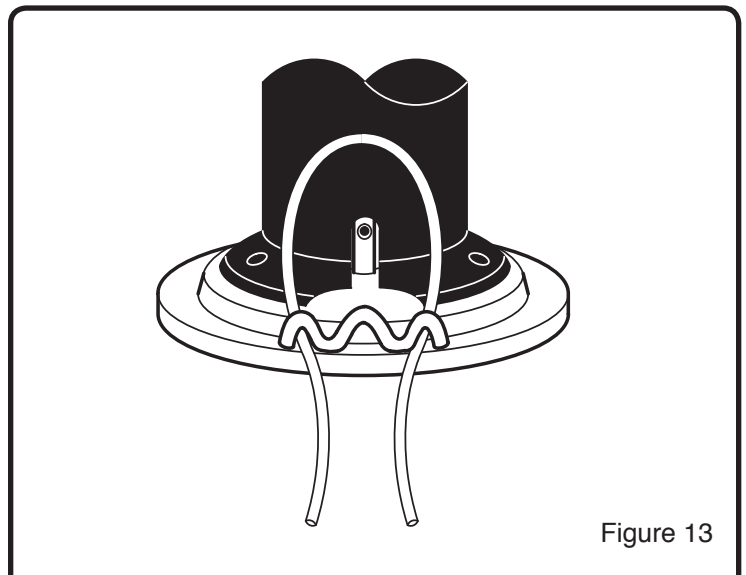

Figure 13
4. Thread the ends of the new trimmer line through the out side loops. (See Figure 13)